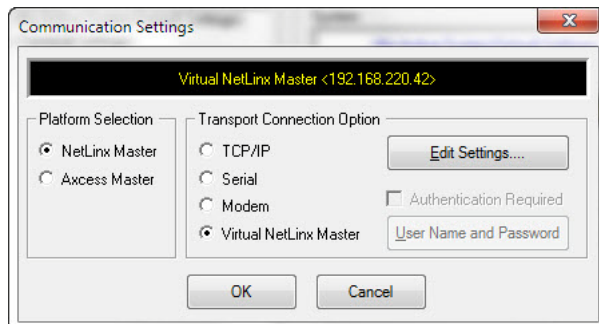

FIG. 26 Communications Settings dialog box
2. Click the **Communications Settings...** button to open the *Communications Settings* dialog (FIG. 26).